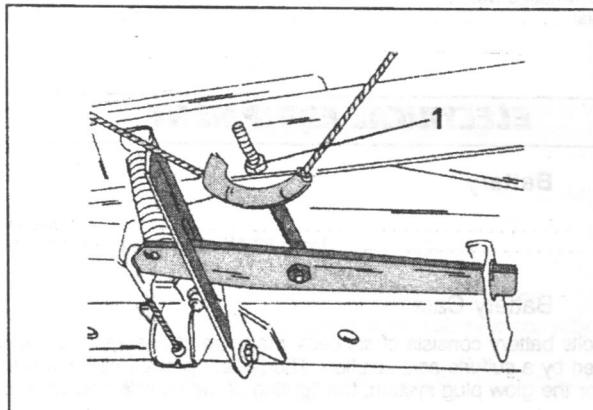

Fig. 8.20. — The nut (1) in the centre of the handbrake cable equaliser bracket is used to adjust the handbrake.
- Repeat the bleeding operation in the given order on the other brake units. Fig. 8.20 shows where the bleeder screws of the front calipers are located. Finally top-up the reservoir to the required level. *Brake fluid drained out of the system into the glass jar must, however, nor be used to fill the reservoir.*
- Tighten the nut in the centre of the handbrake cable equaliser (Fig. 8.20) until the rear wheels can just be rotated under a fair effort. Re-tighten the locknut.